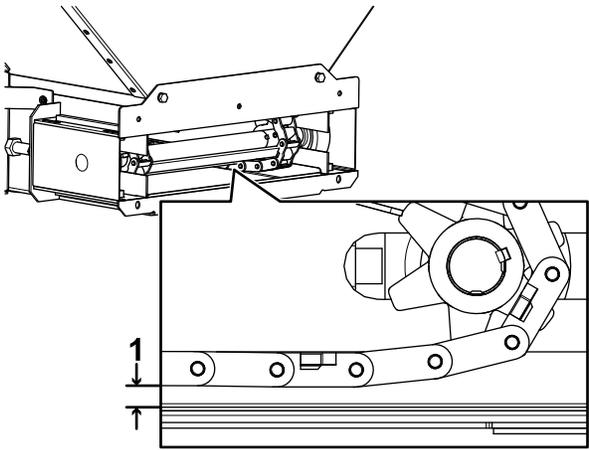

Figure 25
3. Check the gap between the pintle chain and the cleanout tray (Figure 25).